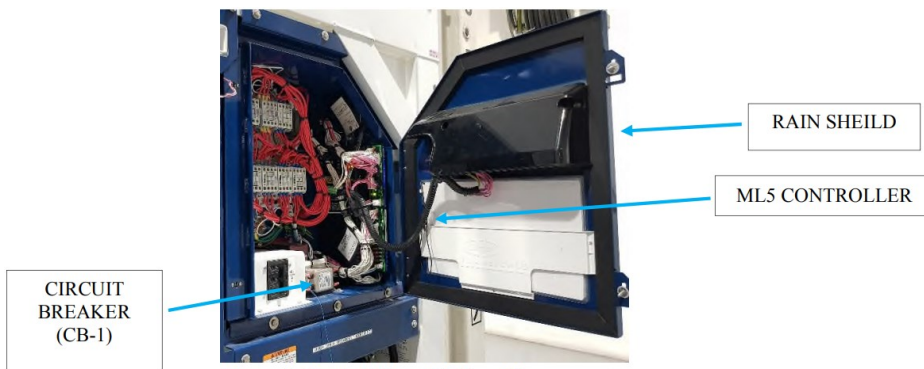

Figure 1: Control Box with Door Open
3. Open the control box door. See Figure 1.